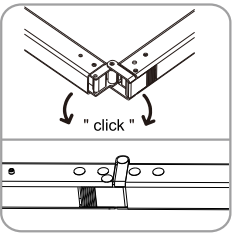

Figure 5
3. To secure frame, "click" hinges into place. Extend horizontal side of main frame (Figure 5 - 6).